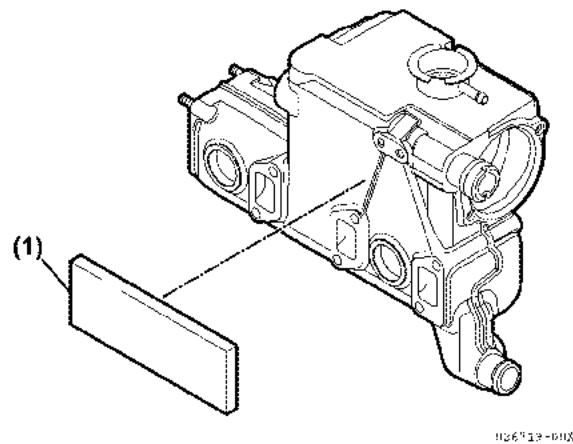

**Figure 7-23**
4. Remove six tightening bolts (**Figure 7-23, (1)**).
5. Loosen the two nuts on the cylinder head stud bolts (**Figure 7-23, (2)**).